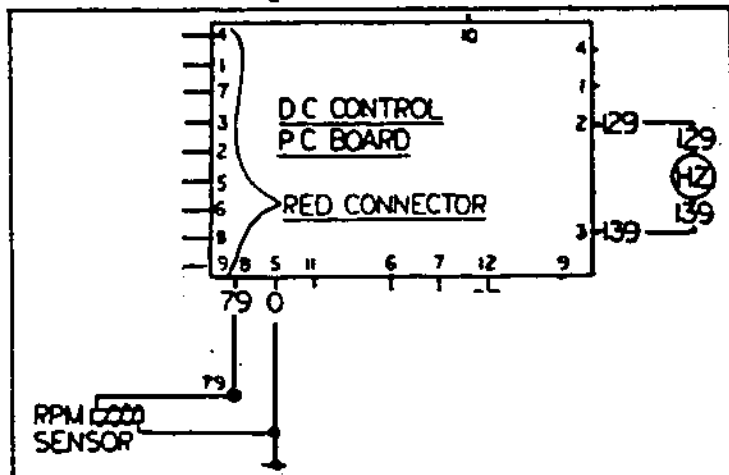

Figure 3.2-C. AC Frequency Meter Circuit
3.2.3- AC FREQUENCY METER (Figure 3.2-A, 3.2-C)